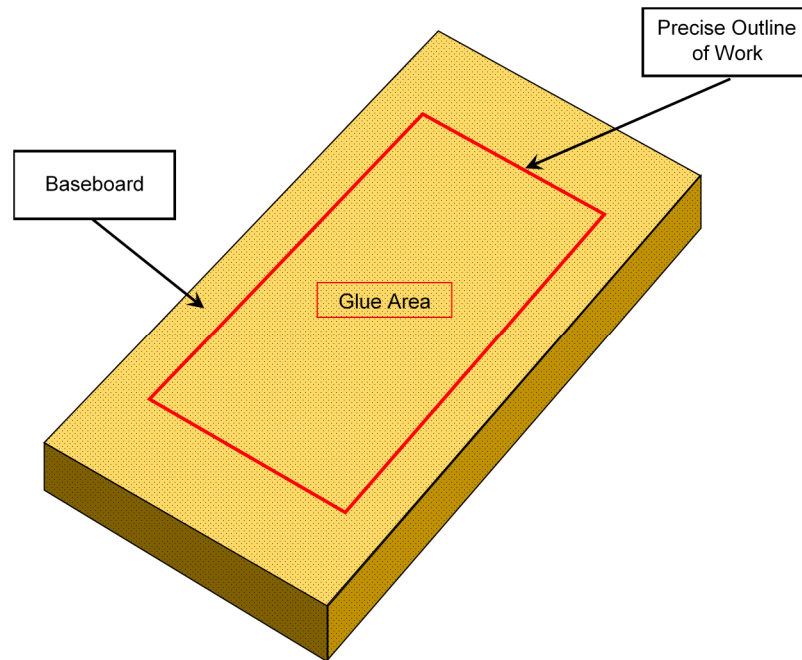

Figure 5-1: Marking the Work Position on the Baseboard
- 5.1.1. Start by marking out on the board in pencil the exact position of your work on the baseboard. Check this carefully. See Figure 5-1 below.